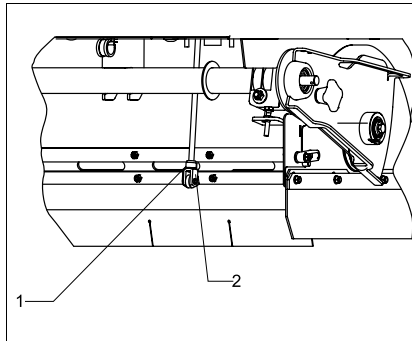

Fig. 14 Adjust folding apron
- Remove bolt (Fig. 14/2).
- Modify adjustment by turning the fork head (Fig. 14/1).